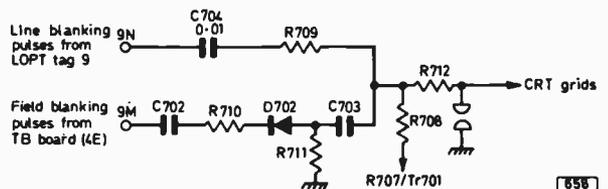

Fig. 4: Modified flyback blanking circuit.
**Flyback Blanking:** The flyback blanking circuit has been modified as shown in Fig. 4. The field blanking pulses now come from point 4E on the timebase board as